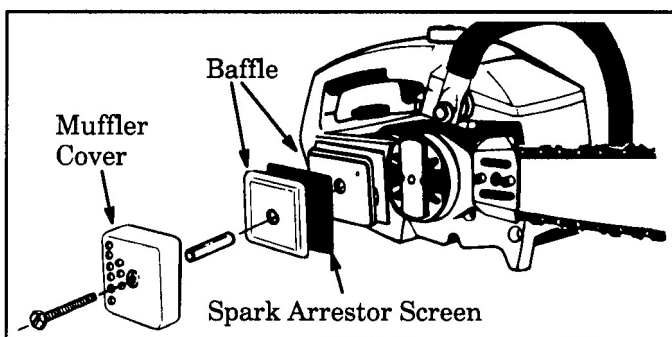

Figure 36
3. Remove the muffler cover. Figure 36.